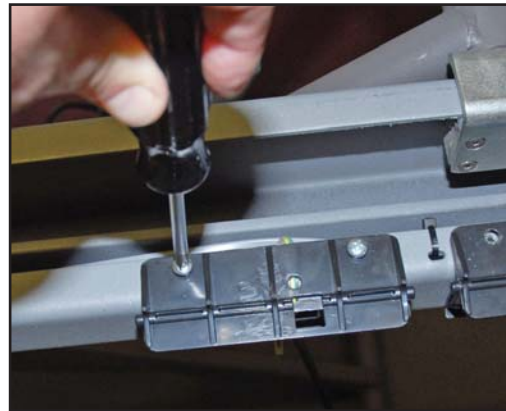

FIGURE 6.29
4. Using a #1 Phillips screwdriver, remove the four Screws securing each of the Elevation Foot Pedals to the Frame. Refer to **Figure 6.29**.